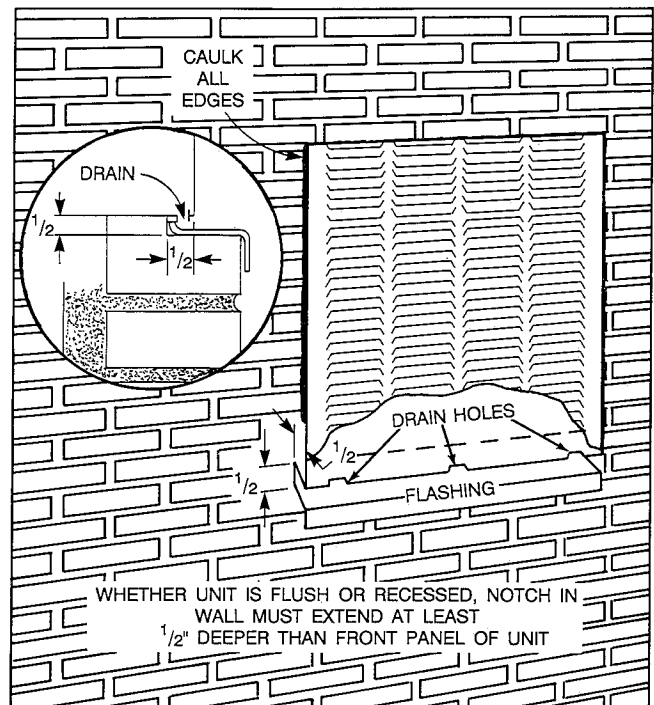

Fig. 3—Flush or Recess Mounting
2. Extend unit approximately 1 in. beyond outside (finished) wall and tilt to the outside to allow rainwater to drain off. (See Fig. 3.)
4. Use flashing under unit and caulk all edges to provide weathertight seal. (See Fig. 3.)